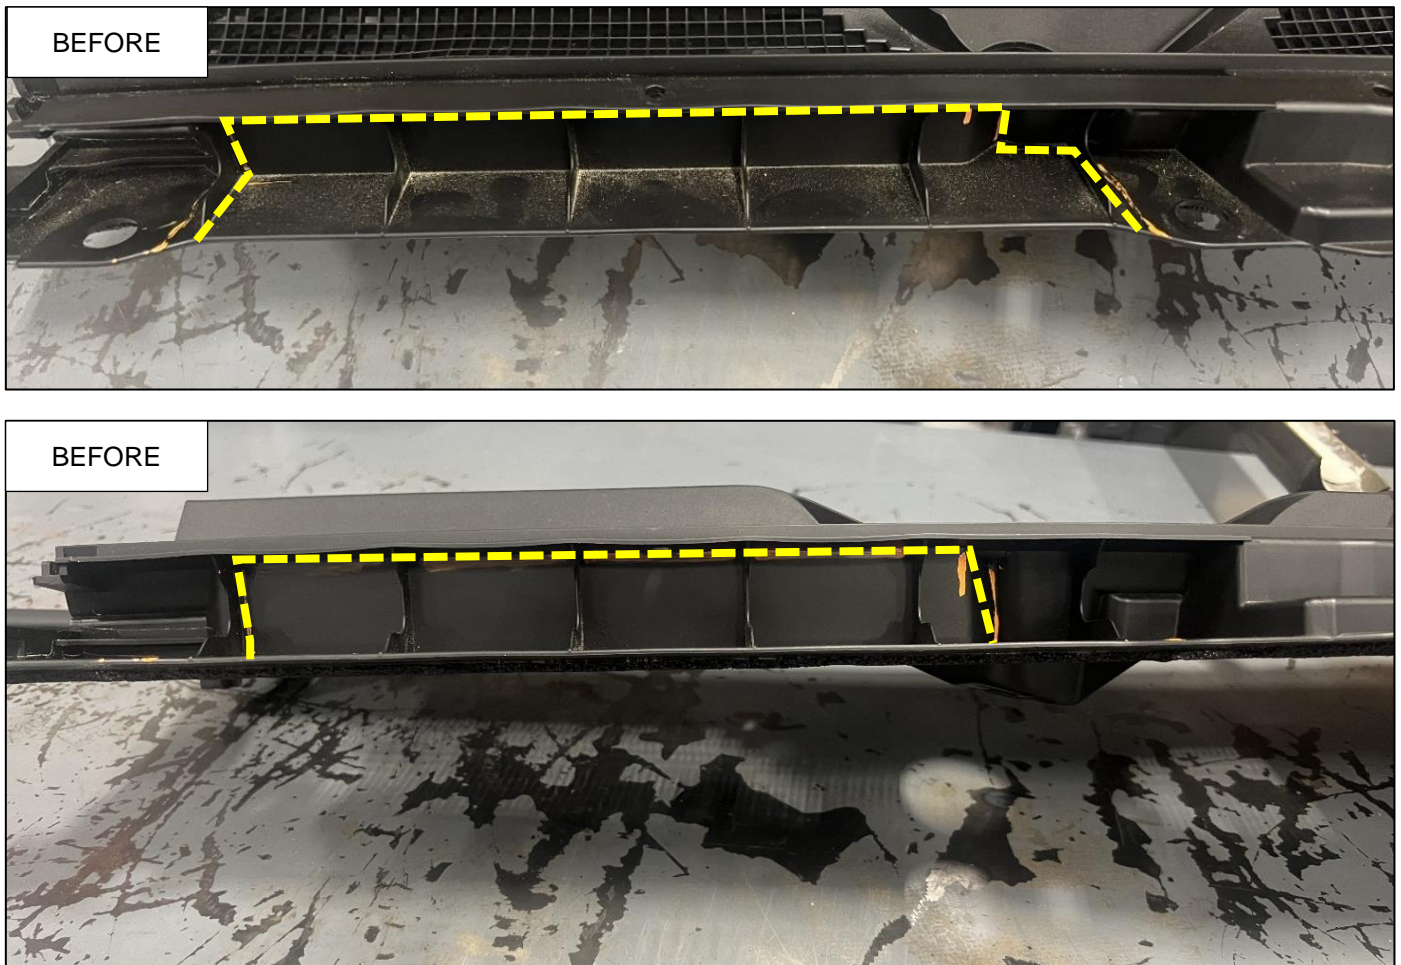
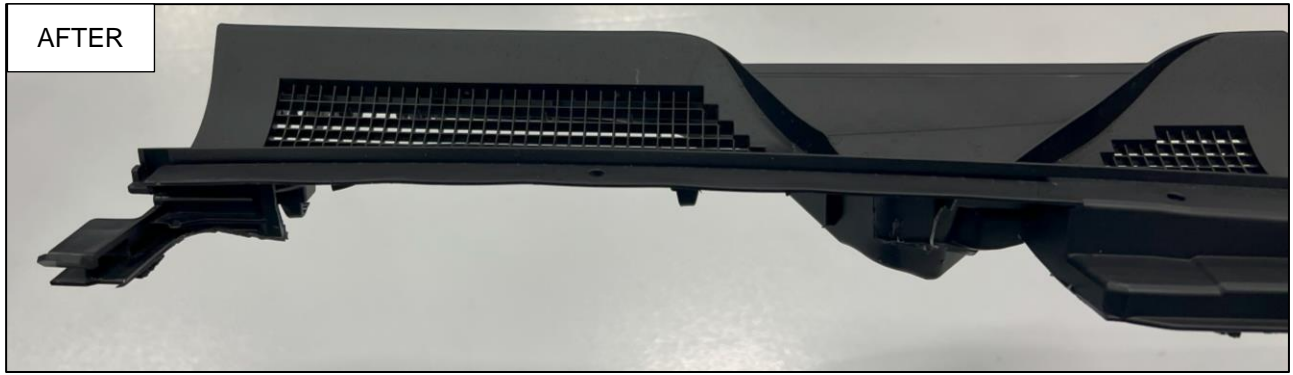

Figure 4
Figure 5
- i. Cut the Cowl Panel so it looks as shown below in *Figure 4*. The next page shows what it will look like after cut, *Figure 5*.